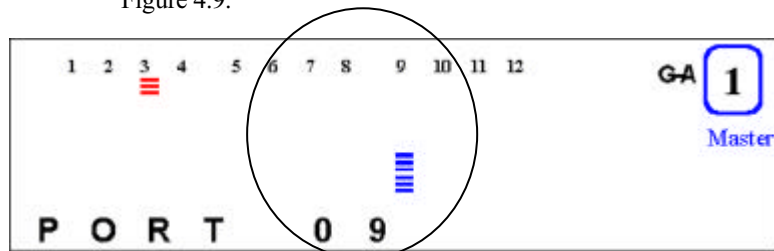

Figure 4.9 Scrolling to a Port
- 3) Press **<Next>** to move the “port cursor” to the desired port, the port number is displayed in the Message Zone, as shown in Figure 4.9.